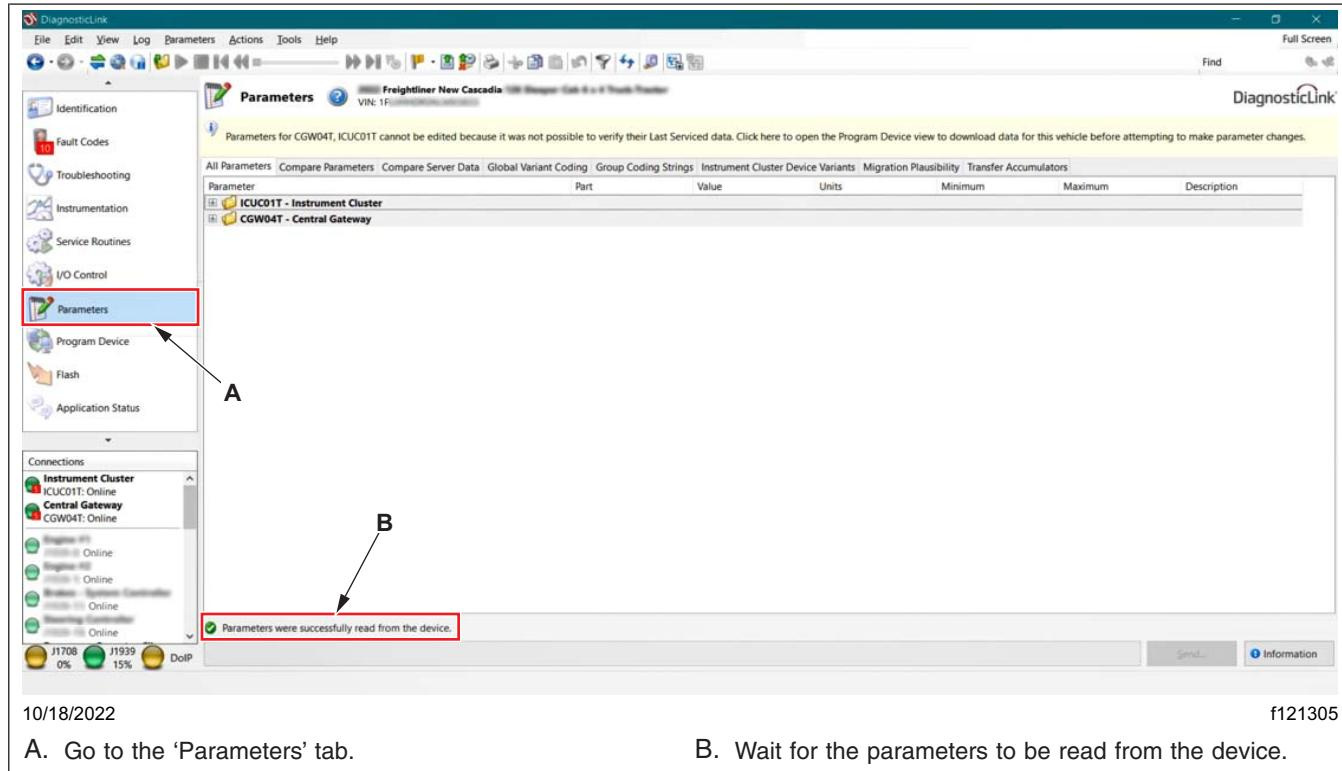

Fig. 28, Reading the ECU Parameters
12. Go to the 'Parameters' tab. See **Fig. 28**.